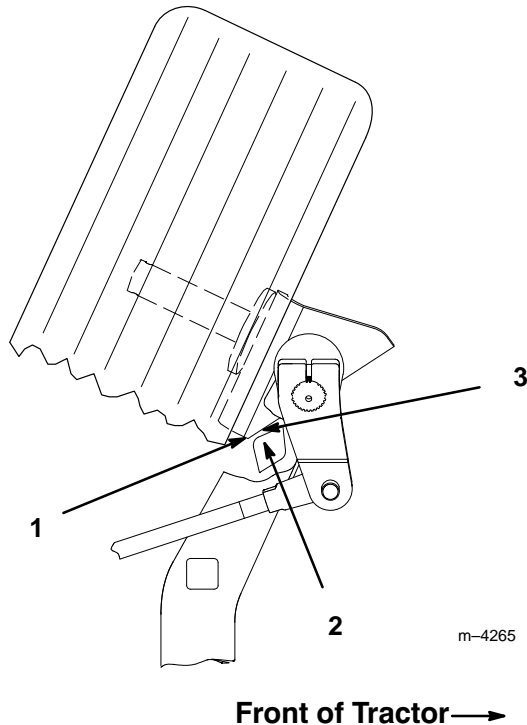

Figure 9
1. With the tractor on a level surface, turn the steering wheel fully to the left and check the clearance of the left hand spindle stop to the stop on the front axle. There should be a slight clearance between the stops (Fig. 9).